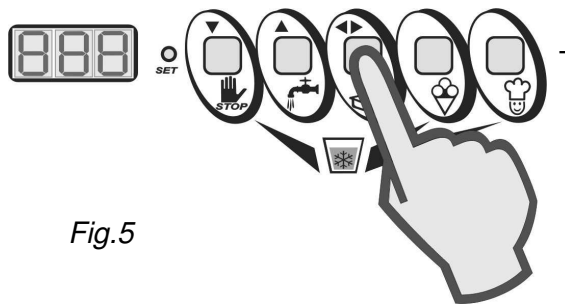

Fig.5
- Press the CONFIRMA (CONFIRM) key (◀▶) to validate the new data and exit programming (Fig. 5).